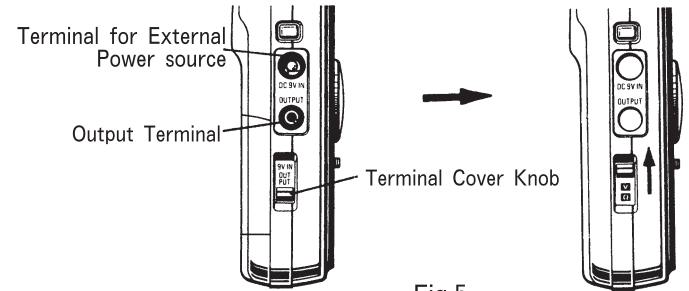

Fig.5
- Slide up the Terminal Cover Knob to uncover the COMMON Terminal. (See Fig.5)